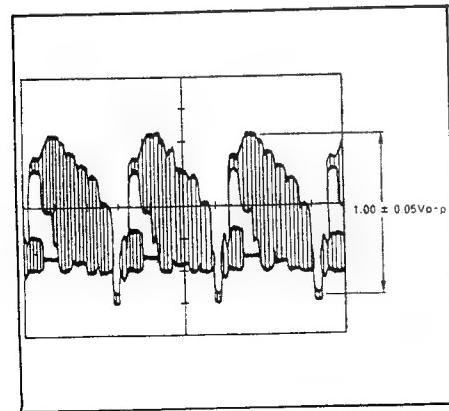

Fig. II-88 20  $\mu\text{sec}/0.2 \text{ V}$
- (1) Connect the pin 4 of IC802 (Audio P.C.B.) to ground via a resistor of 10 Kohms.
- (2) Playback the alignment tape.
- (3) Observe the waveform at pin 4 of Audio P.C.B. while monitoring the playback sound.
- (4) If the waveform is not clear (doubled, etc.) and/or there is a noise in playback sound, adjust the VR801 to make the waveform as shown in the Fig. II-88.